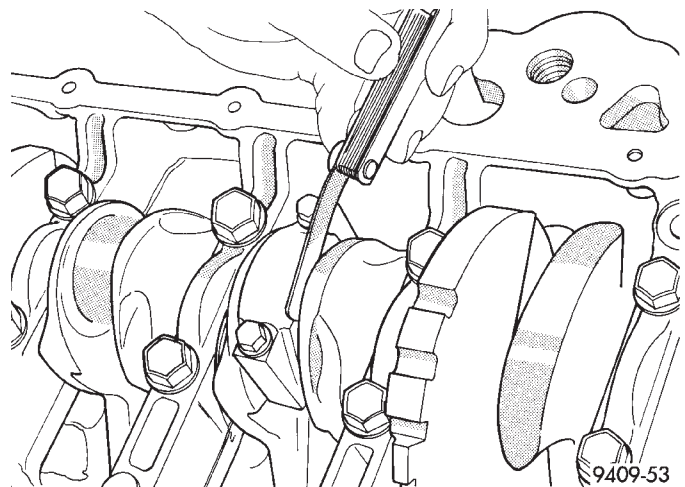

Fig. 94 Checking Connecting Rod Side Clearance
(9) Tighten the bolts to 27 N·m PLUS 1/4 turn (20 ft. lbs. PLUS 1/4 turn).
(10) Using a feeler gauge, check connecting rod side clearance (Fig. 94).